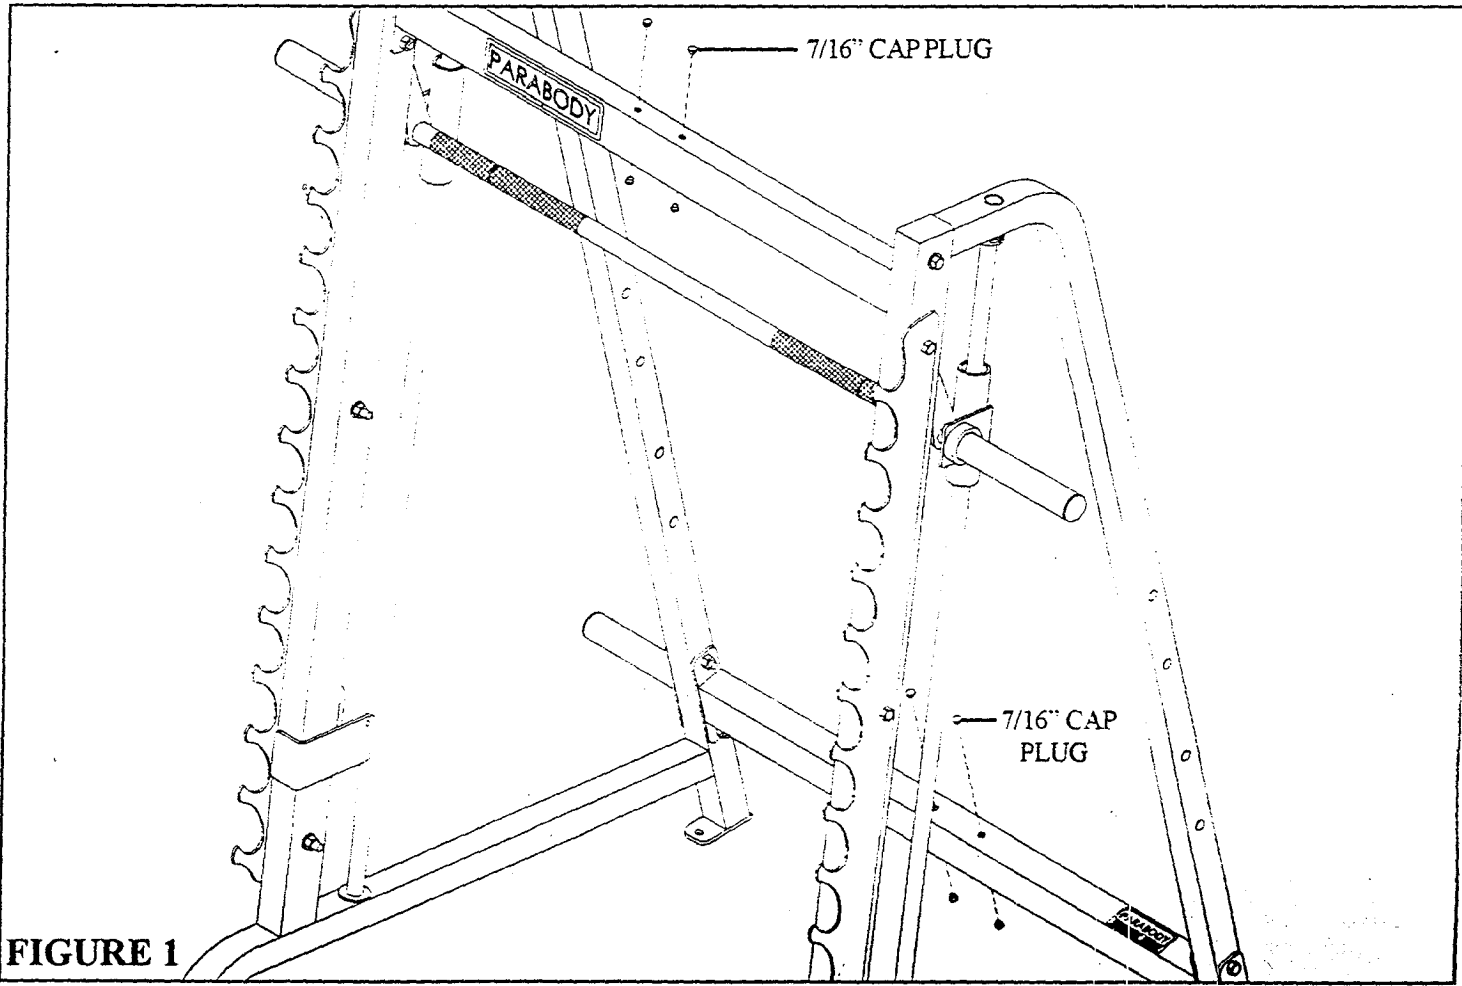

FIGURE 1
- Remove four 7/16" CAP PLUGS from the UPPER & LOWER CROSS SUPPORTS on the 888 SMITH MACHINE as shown in FIGURE 1